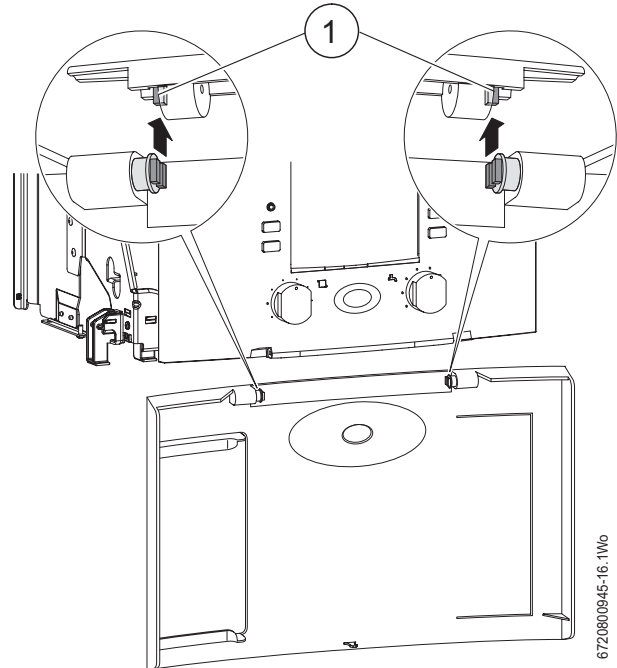

Fig. 43 Fitting the flap
- ▶ Check the orientation of dampers [1] (→ Fig. 43).